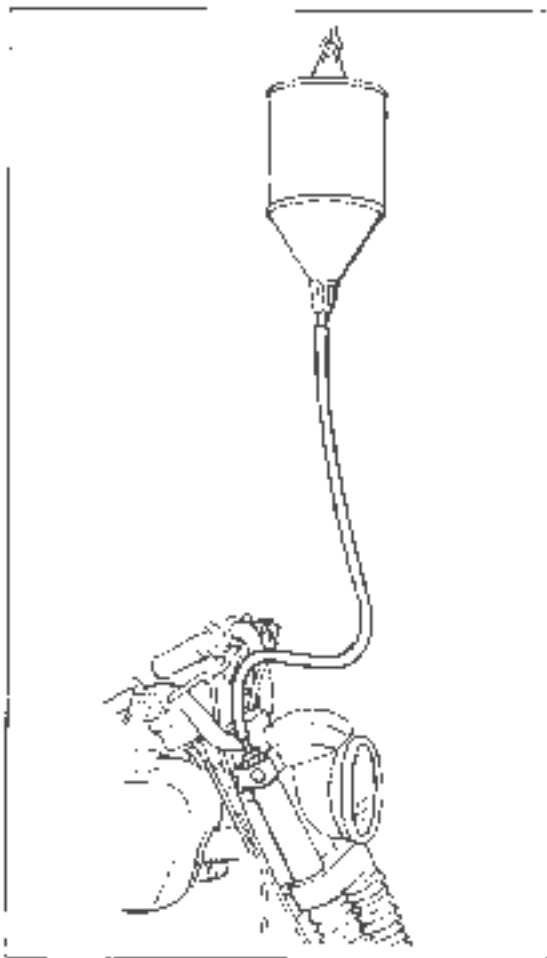

Figure 2-34. Filling Hydraulic Fork with Oil
2. Select a tin funnel (3) with the funnel mouth about the same size as the bottom of can (2). Swage and shape the funnel spout so that a piece of 1/4 in. metal tubing (4), about 2 in. long, (a piece of fuel line is suitable) can be soldered into it. Solder (3) onto the bottom of (2). improvise and attach bail (1) to the filler can.
3. Make plug (7) from a rubber bottle stopper purchased from a drug store. Rubber stopper should be 1 in. to 1-1/8 in. long, and its largest diameter about 5/8 in.
5. Slightly flare one end of a piece of 1/4 in. tubing (6), about 2 in. long and insert into plug (7). Attach filler can to plug with transparent flexible tubing (5) about 2 feet long. See Figure 2-34.